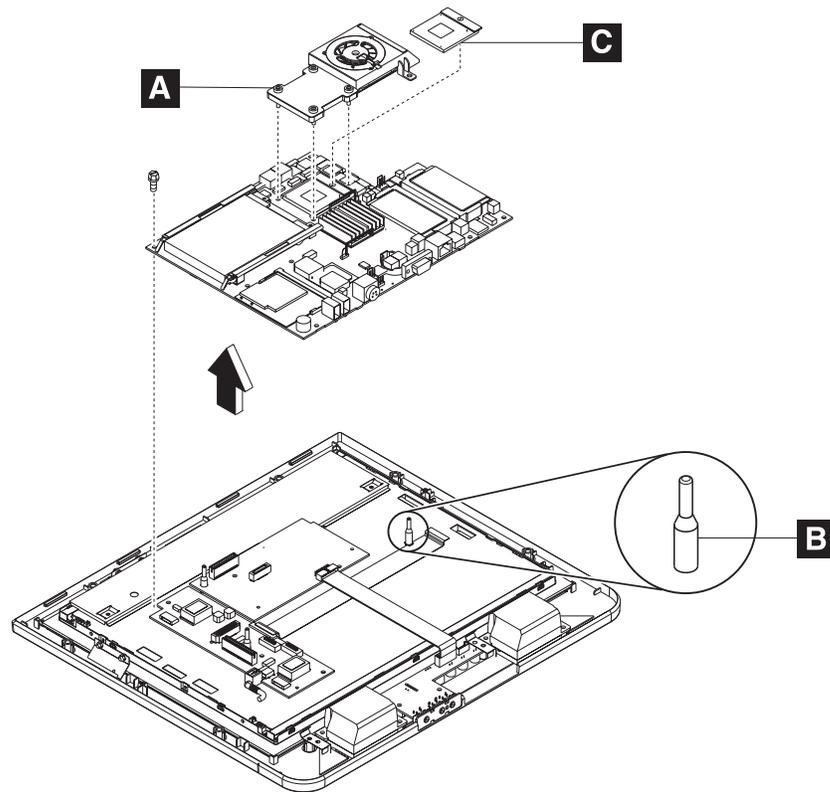

Figure 22. Heat sink and processor
2. See Figure 22 and loosen the 4 screws (**A** in Figure 22) retaining the heat sink and remove.